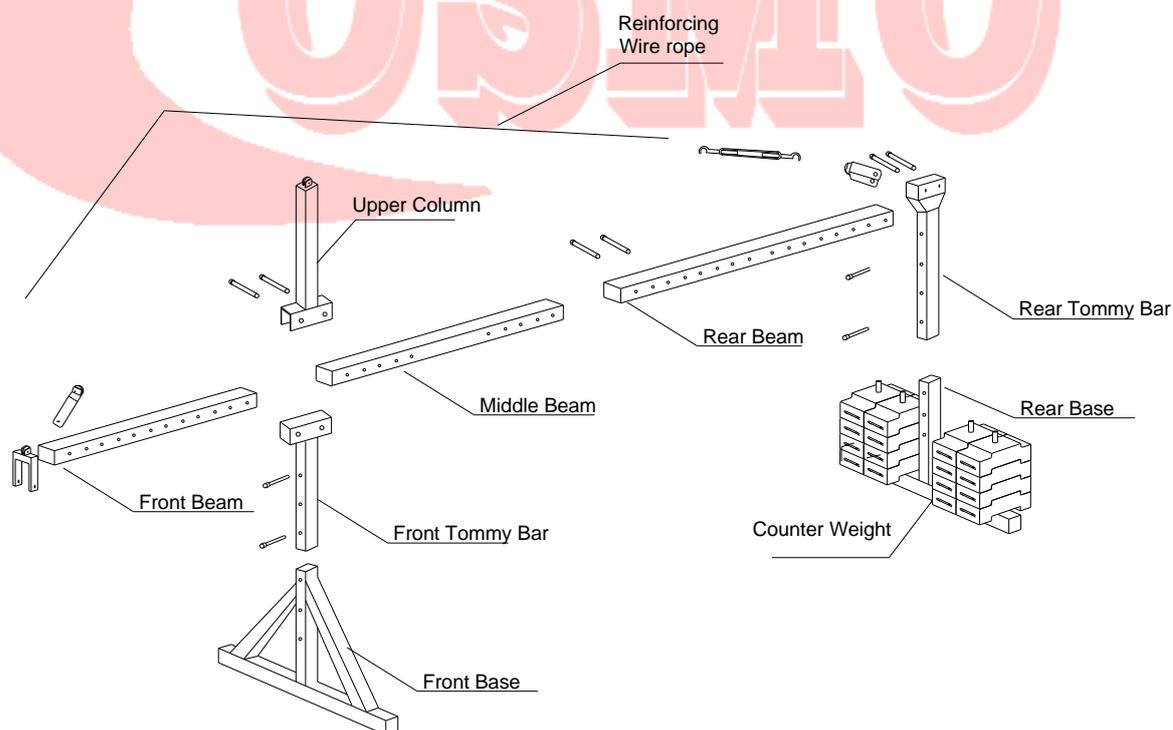

Figure 10 Installation of Suspension Mechanism
**5.2.2 (See figure 10)** Insert the tommy bars into the front base and rear base respectively. Adjust the height of the tommy bars and tighten the bolts to form the front base and rear base. (The height of which should be adjusted according to